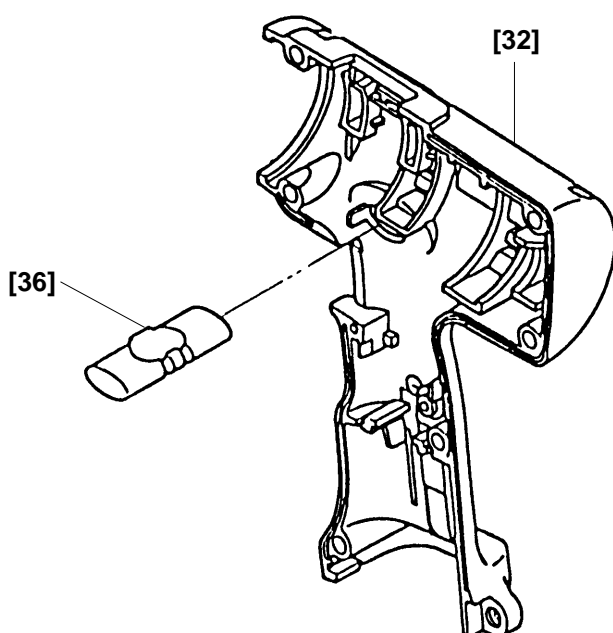

Fig. 17
- (f) Install the Pushing Button [36] into Housing (B) [32]. (See Fig. 17)